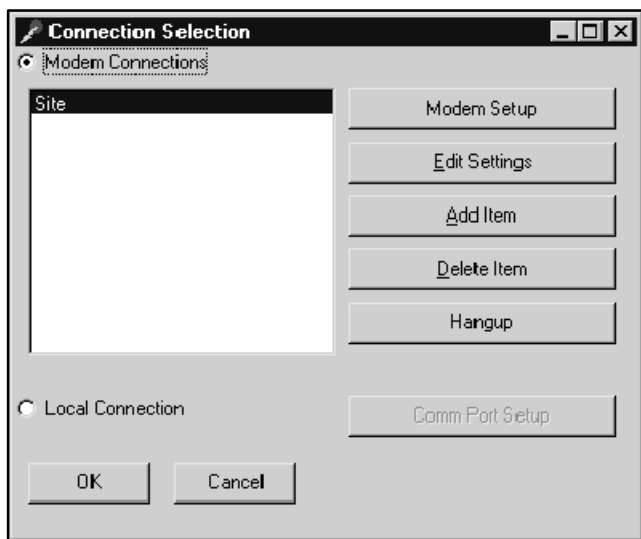

Figure 2-13 Connection Selection Window
- b. If the Connection Selection dialog box opens, click on the Local button for a local connection or the Modem button for a remote connection. For a modem connection, select the site to connect from the list, then click OK. See Figure 2-13.